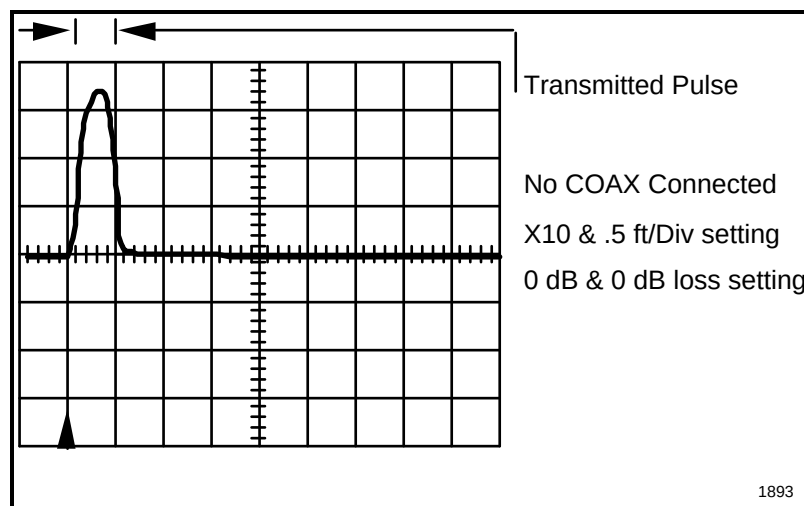

Figure C-1
1. With no COAX connected, the TDR screen must look like Figure C-1.